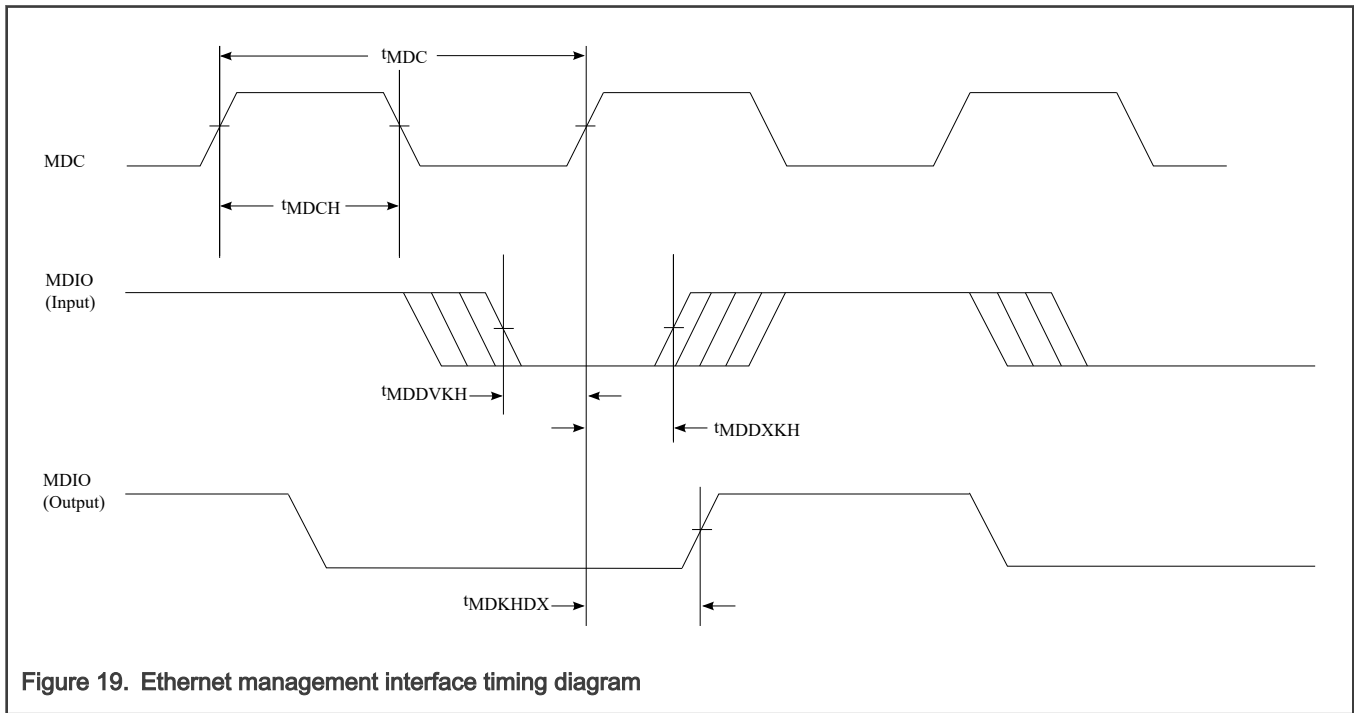

Figure 19. Ethernet management interface timing diagram
4. The symbols used for timing specifications follow these patterns: t(first two letters of functional block)(signal)(state)(reference)(state) for inputs and t(first two letters of functional block)(reference)(state)(signal)(state) for outputs. For example, tMDKHDX symbolizes management data timing (MD) for the time tMDC from clock reference (K) high (H) until data outputs (D) are invalid (X) or data hold time. Also, tMDDVKH symbolizes management data timing (MD) with respect to the time data input signals (D) reach the valid state (V) relative to the tMDC clock reference (K) going to the high (H) state or setup time.
6. See Figure 19.